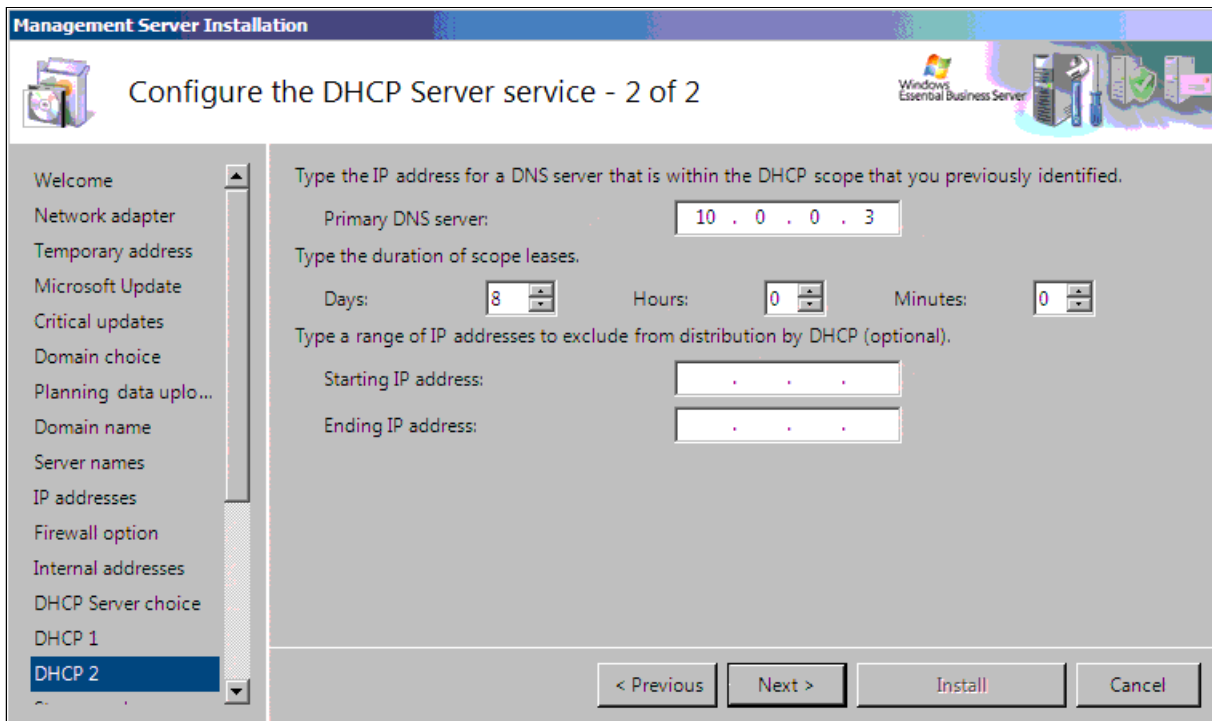

Figure 4-17 Configure the DHCP Server service - 2 of 2
24. On the “Configure the DHCP Server service - 2 of 2” panel (Figure 4-17), either confirm the default DNS server IP address or change the IP address to your preferred DNS server. Set the lease times for the IP addresses that are issued by DHCP Server service or accept the default of eight days. In our example, we accepted the default. Click **Next**.